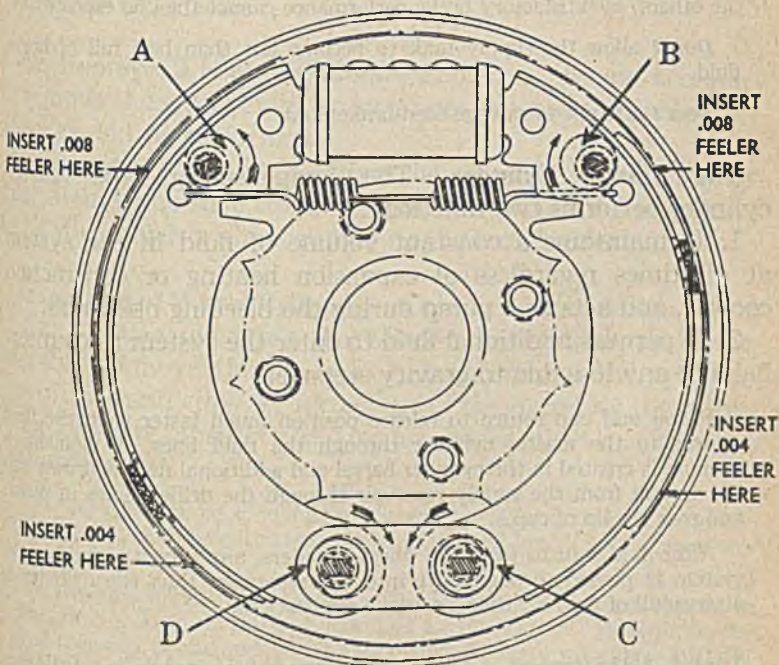

Fig. 9.—Detail of wheel brake mechanism to illustrate brake adjustments.
b. Directly ahead of the master cylinder piston cup (when in normal release position) is a relief or compensating port. It is imperative that this by pass be open when the brakes are released. Should this port, fig. 9, be blocked by piston cup not returning to its proper release position, the